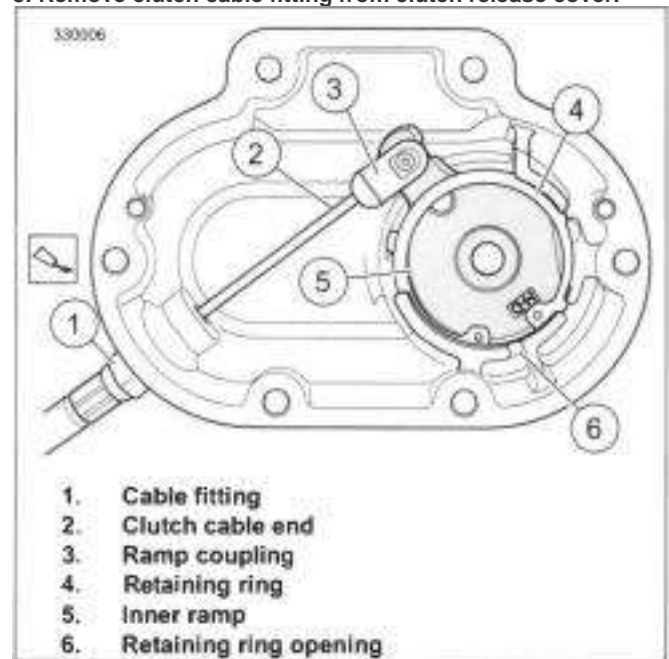
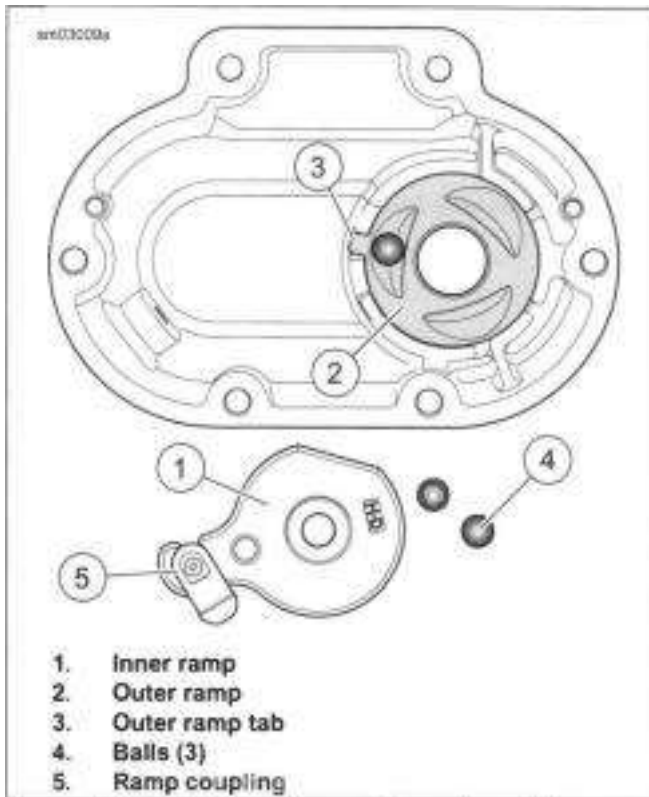

Figure 5-6. Clutch Cable Connection
Figure 5-7. Coupling and Ramp Assembly
2. See Figure 5-6. Disconnect clutch cable.
- a. Remove retaining ring (4).
- b. Lift inner ramp (5) and ramp coupling (3) out of clutch release cover.
- c. Disconnect clutch cable end (2) from the ramp coupling (3).
3. Remove coupling (3) from inner ramp.
4. See Figure 5-7. Remove balls (4) and outer ramp (2).
1. See Figure 5-6 . Apply a drop of LOCTITE 243 MEDIUM STRENGTH THREADLOCKER AND SEALANT (blue) to the clutch cable fitting (1).
5. See Figure 5-6 . Connect clutch cable.
- a. Connect cable end to ramp coupling (3).
- b. Install coupling on inner ramp (5).
b. Install retaining ring (4).